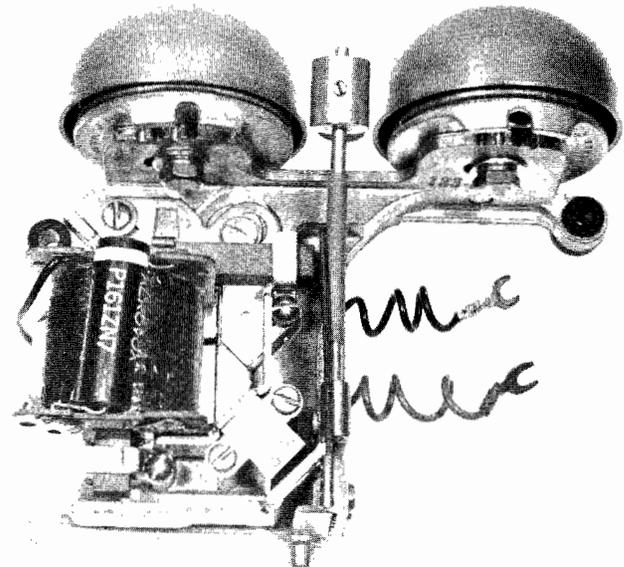

Fig. 1-1 TYPICAL RINGER
1.2 Each ringer consists of a cast, non-magnetic, alloy frame on which all the component parts are mounted. A typical ringer is illustrated in Fig. 1-1. A laminated soft-iron core carries the single coil and is clamped to the soft-iron yoke which is bolted to the frame. The armature and clapper assembly is spring mounted to the frame so that the clapper may be vibrated by the armature, due to the magnetic field produced by the coil and yoke, to strike the gong(s). Increased sensitivity is provided by biasing the armature by means of a small permanent magnet clamped in the frame. A mechanical volume control is fitted on most types of ringer so that the user may adjust the sound output level. The coil is provided with flexible wire leads for connection to the other components in the telephone.